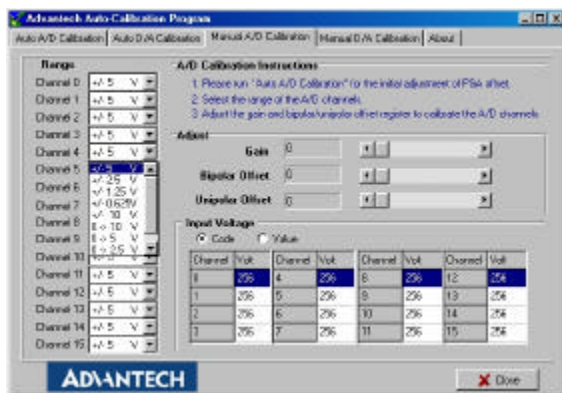

Fig. 5-15 Selecting Input Range in Manual A/D Calibration panel
Step 1: Click the *Manual A/D Calibration* tab to show the A/D channel manual calibration panel. Before calibrating, acquire the reference voltage from a precision standard voltage reference. Go to the **Range** form, select a channel and the target voltage range according to the input voltage value from a precision standard voltage reference (Fig. 5-15).